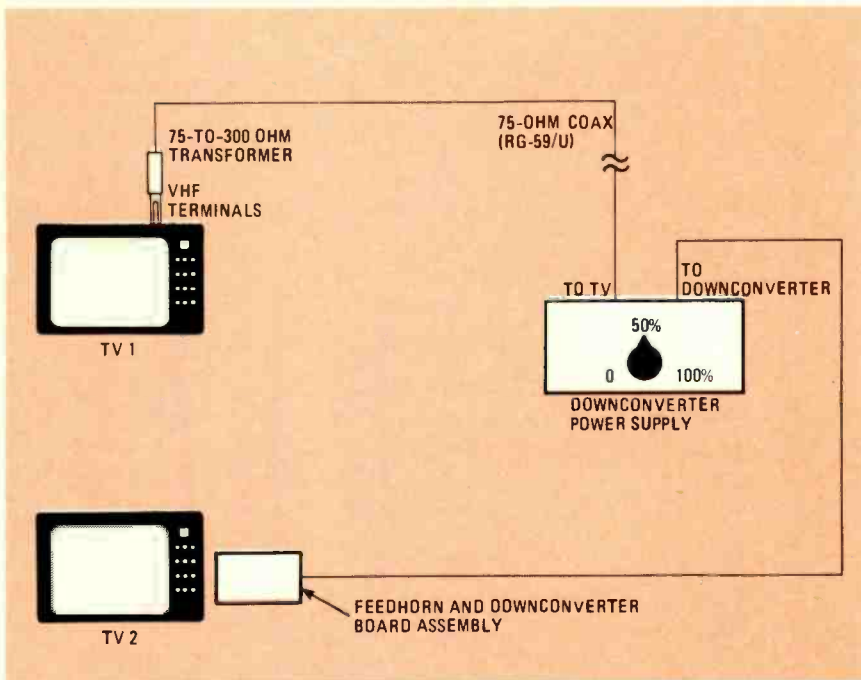

FIG. 3—TEST SETUP for tuning the downconverter. Here the feedhorn assembly is placed close to TV-2 to pick up the artificial microwave signal.
1. Connect the equipment as shown in Fig. 3. As you can see, TV-1 is connected to the output of the converter, while TV-2 is connected the antenna/downconverter terminal of the power supply through the feedhorn/downconverter assembly.